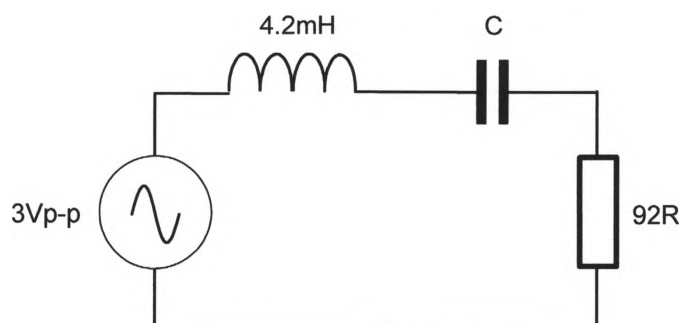

Figure 2
12. Calculate the value of capacitor that would give the circuit in Figure 2 below a resonant frequency of 75kHz.